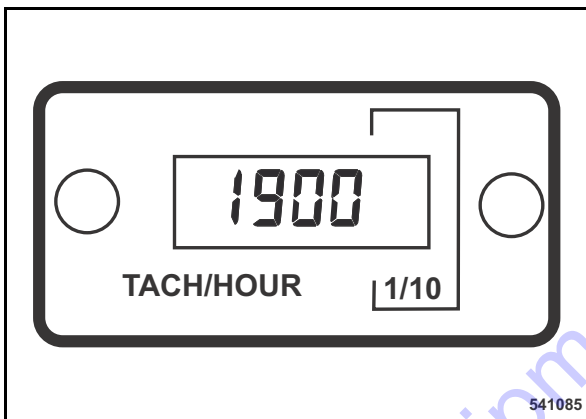

Fig. 57
- After approx. 30 to 40 seconds read the idle speed from the existing engine rpm-meter (Fig. 57).